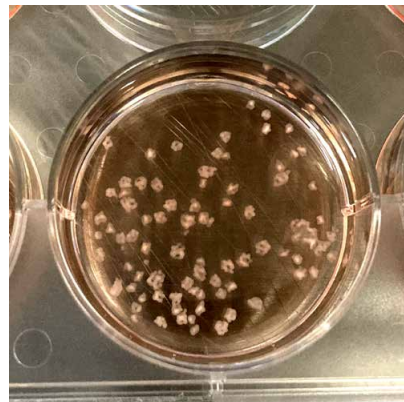

Figure 3. Neural induction at day 6. PSC spheroids in a 6-well plate in suspension at day 6 of neural induction.
7. Induction D6: At day 6 of induction (Figure 3), cells should be >90% SOX1/nestin co-positive and are ready to go into Neural Expansion Medium.